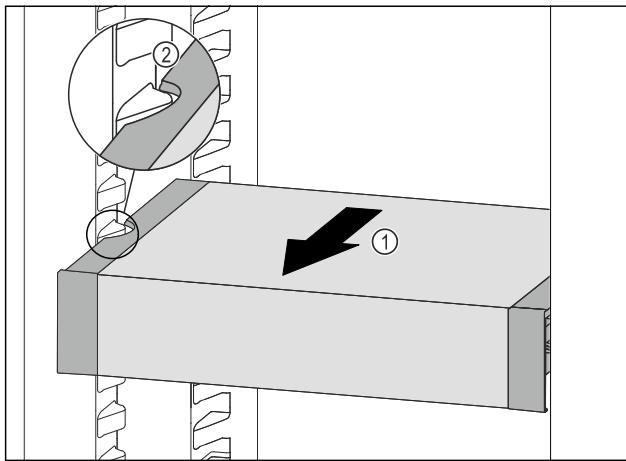

Fig. 93
- ▶ Pull VarioSafe forwards Fig. 93 (1) until the recesses in the side of the VarioSafe are at the level of the support rib in the fridge section. Fig. 93 (2)